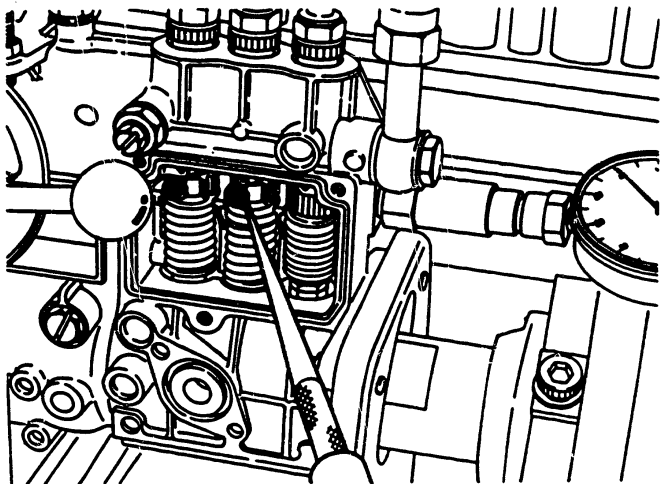

Fig. 102 Fuel injection quantity adjustment
- 3) Rotate the control sleeve clockwise or counterclockwise with an appropriate tool. Fig. 102 shows how the control sleeve is rotated to increase the fuel injection quantity.